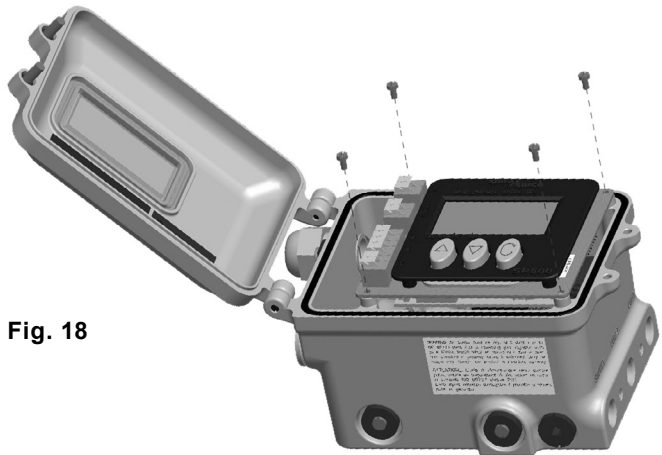

Fig. 18
- Unscrew the board as shown in Figure 18.